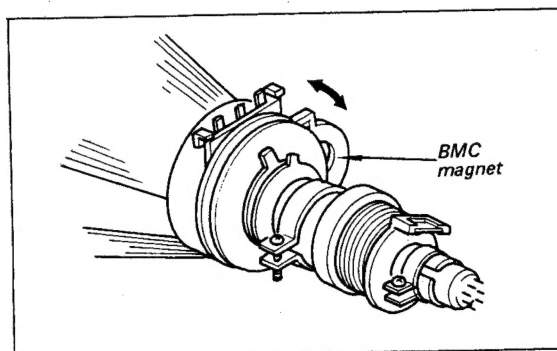

Fig. 3-14. BMC magnet adjustment
- (2) If the blue and red dots do not converge vertically with the green dots at center of the screen in the previous steps, install and rotate a BMC magnet as necessary as shown in Fig. 3-14.